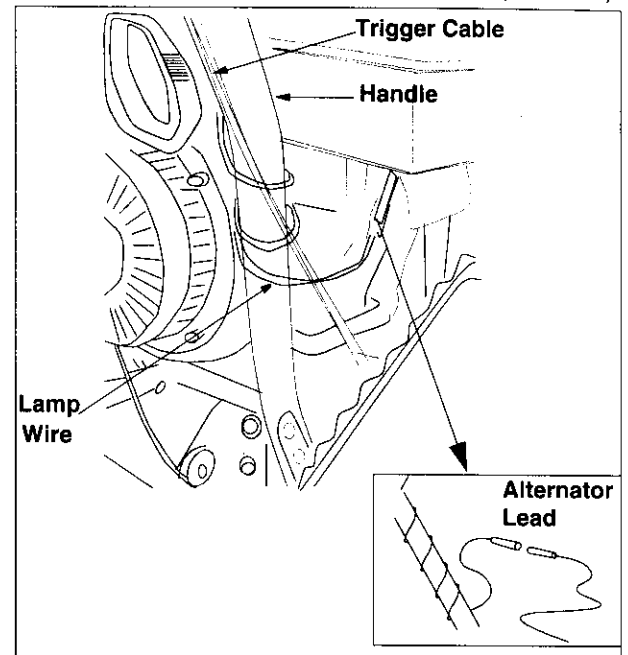

Figure 15
- Wrap the wire from the lamp down the right handle. See Figure 15. Plug wire into the alternator lead wire under the fuel tank (see inset).